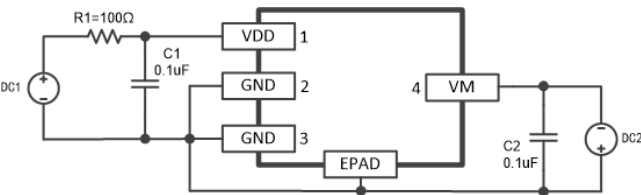

Figure1
- a. According to the figure1, connect the power supply DC1 to the B + and GND pins of the system board and set the voltage to about 3.6V. Connect the power supply from GND to VM to DC2 power supply and set 100mV current limiting 10mA. Observe the waveform.